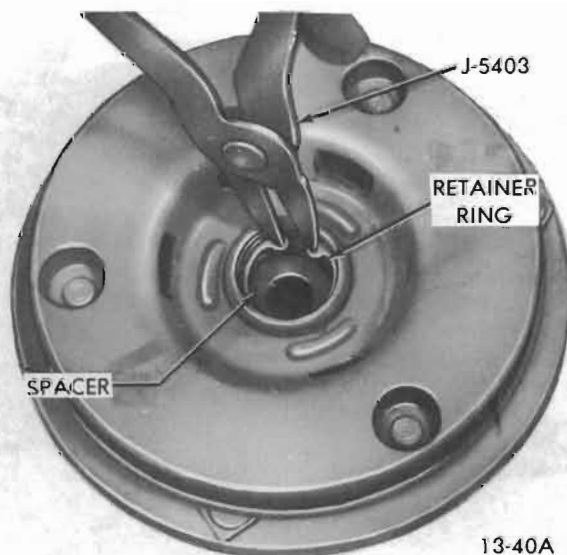

Figure 13-17 - Removing or Installing Retainer Ring in Clutch Drive Plate
4. Using No. 21 Truarc pliers (J-5403) take out retainer ring from hub of clutch drive plate (see Figure 13-17). Lift out spacer.
12. Reassemble retainer ring into hub of clutch drive plate (see Figure 13-17) using No. 21 truarc pliers (J-5403).